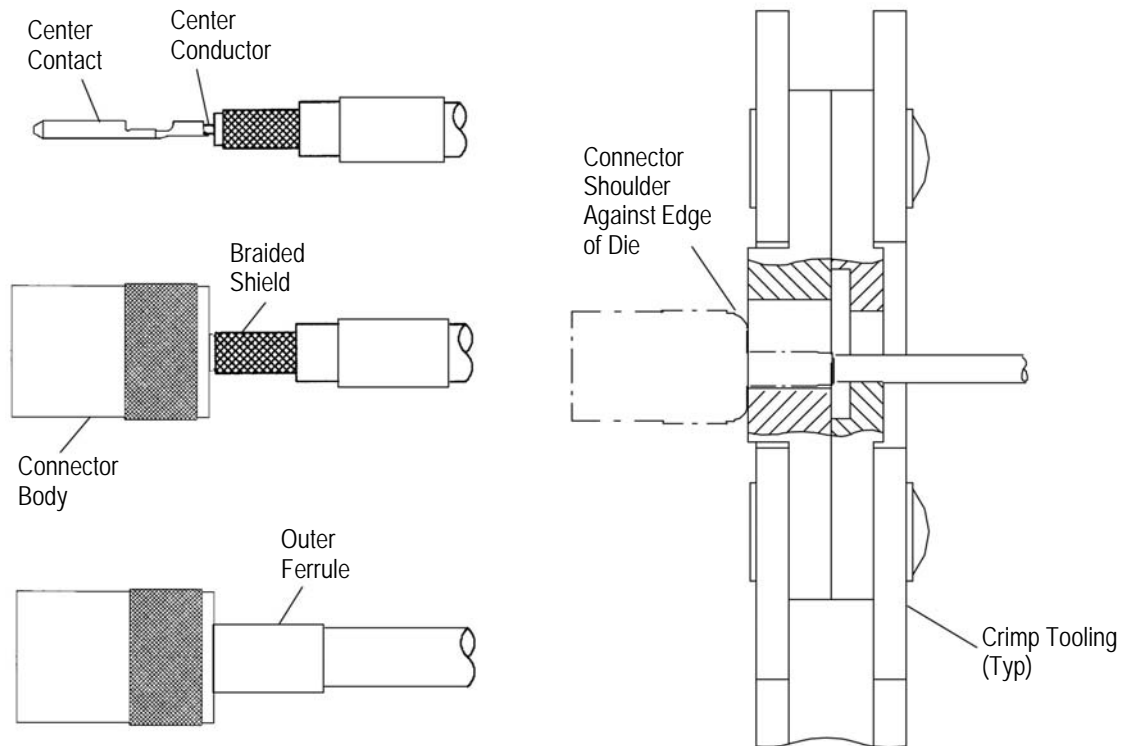

Figure 5
1. Flare the braided shield away from the cable dielectric. Insert the crimped center contact into the connector body until the cable dielectric butts against the dielectric inside the connector body. The flared braided shield must fit around the inner ferrule of the connector body (see Figure 5).
2. Slide the outer ferrule forward over the braided shield until the outer ferrule butts against the shoulder on the connector body (see Figure 5).